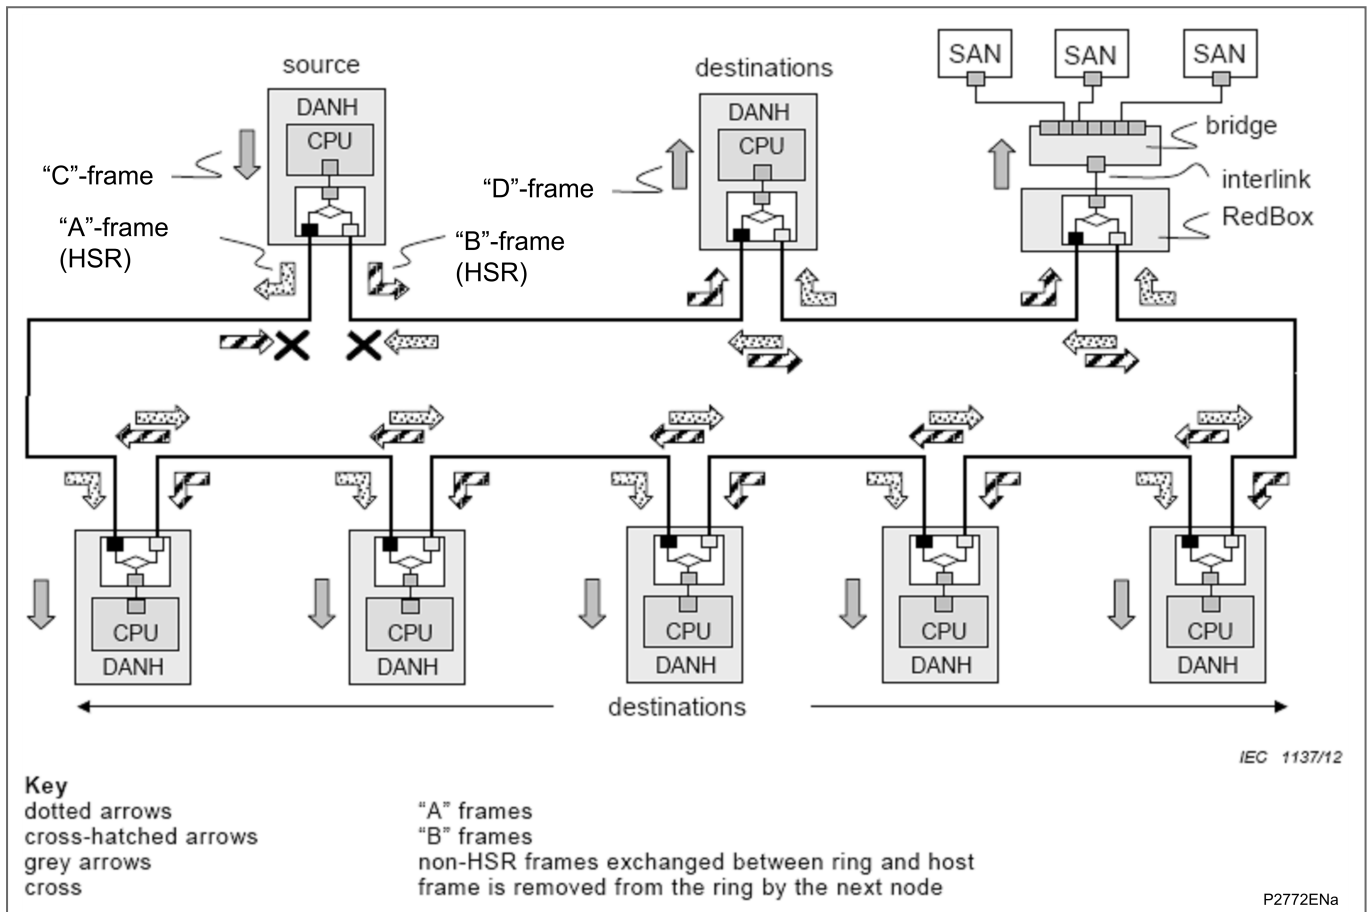

Figure 4 - HSR example of ring configuration for multicast traffic
- Figure 4 - HSR example of ring configuration for multicast traffic